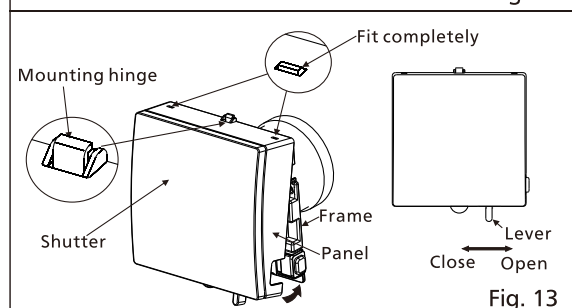

Fig. 13
13. Replace the panel by hanging the panel from the mounting hinge on the top of the black plastic frame and "swinging" the cover down into place. After replacing, move the lever left and right to confirm the movement of the shutter. (Fig.13)